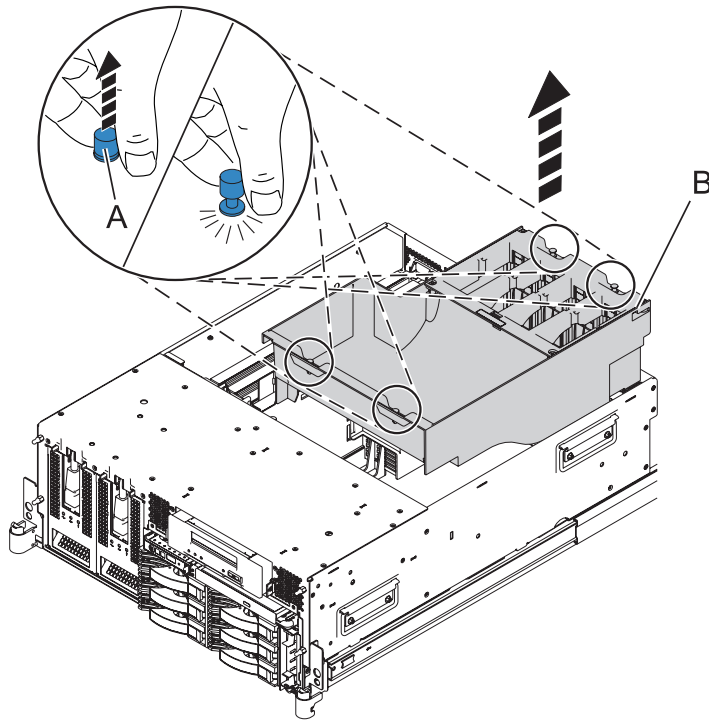

Figure 21. Removing the air baffle
10. Remove the air baffle by lifting each of the four locking tabs (**A**) and lifting the baffle (**B**) out of the system as shown in Figure 21 on page 32.